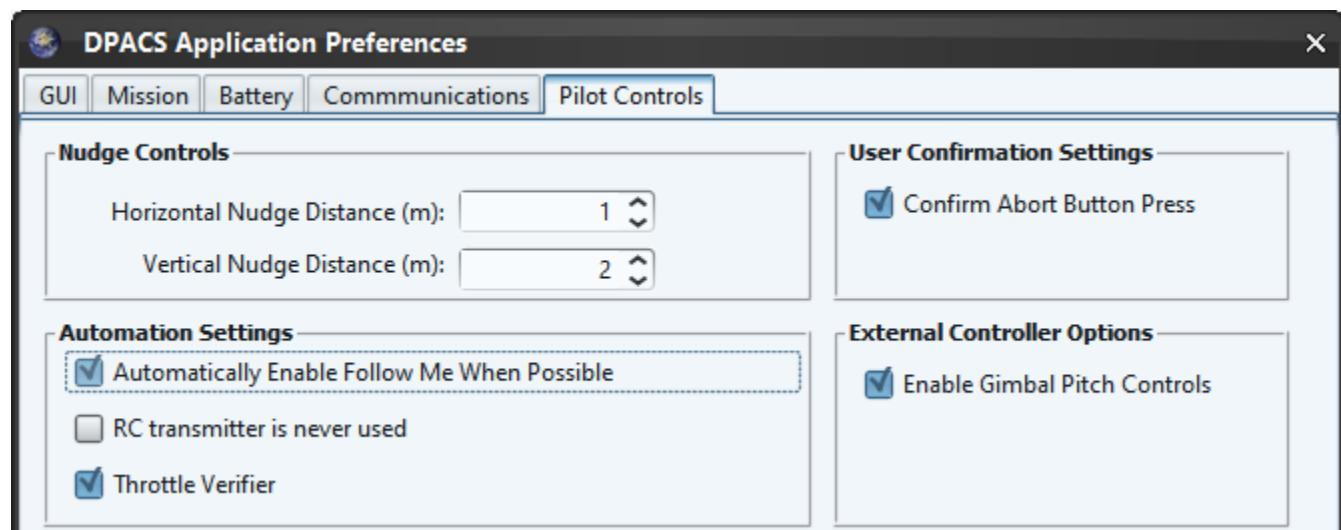

Figure 44 – Automatic Enable Follow Me preference enabled
5. The Follow Me mode is automatically used upon takeoff using the Simple Pilot Control Panel if the “Automatically Enable Follow Me When Possible” setting is enabled in the DPACS preferences as shown in Figure 44.